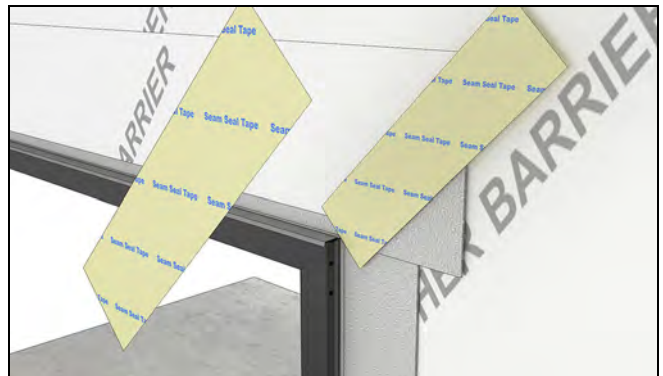

Figure 278
10. Fold the head jamb WRB down over the head jamb flashing. Apply seam seal tape over the diagonal cut in the WRB. Make sure the seam seal laps onto the window. Tape any seams and fasteners directly above the unit with seam seal tape. See Figure 278.